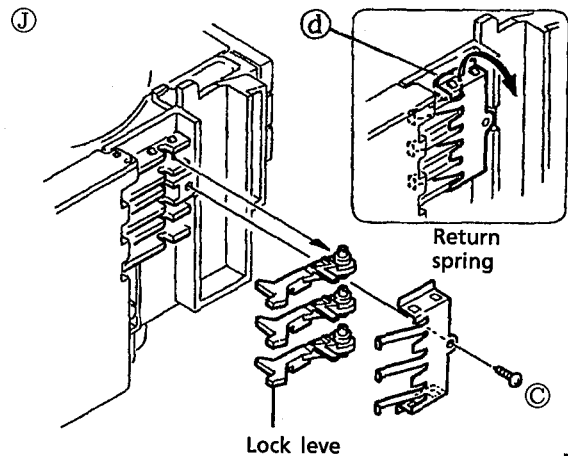
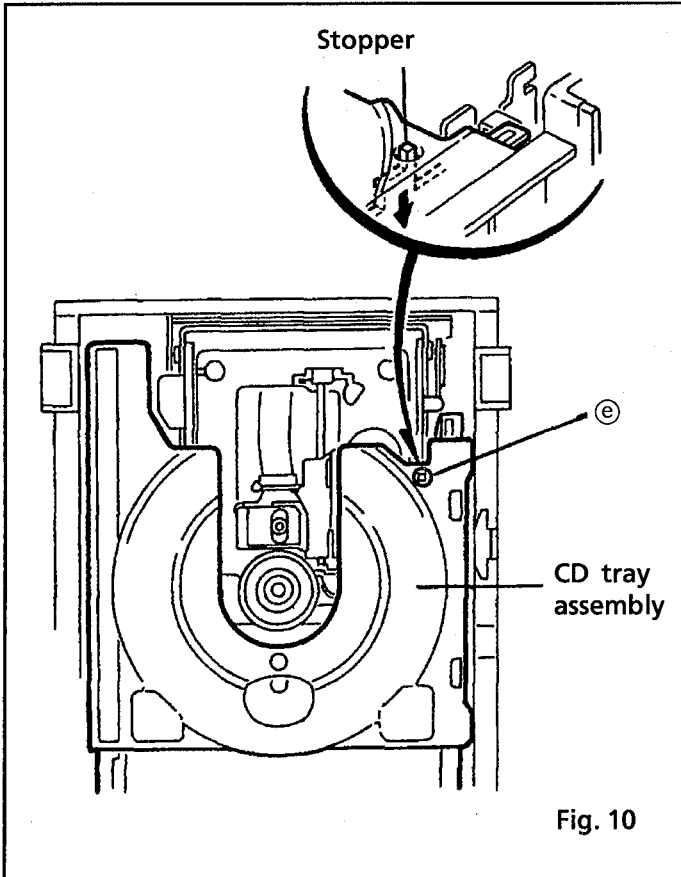

Fig.9
Fig. 10
7. Remove a screw ⑧ which secures the return spring and lock levers from the chassis ass'y.(See Fig. 9.)
8. Remove 2 pawls ④ which slightly secure the return spring to remove it.
10. Check that the lifter unit stopper is inserted into hole ③ located on CD tray ass'y. (See Fig. 10.)